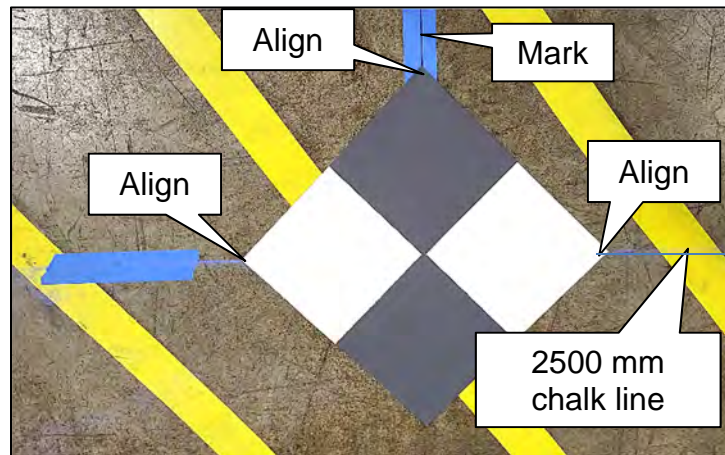

Figure 97
62. Place one (1) target on the driver (LH) side mark on the 2500 mm chalk line.
**IMPORTANT:** Orient and align the target, as shown in Figure 97, Figure 98, and Figure 99. The target must be aligned with the 2500 mm chalk line and the marks made in step 60 on page 47.